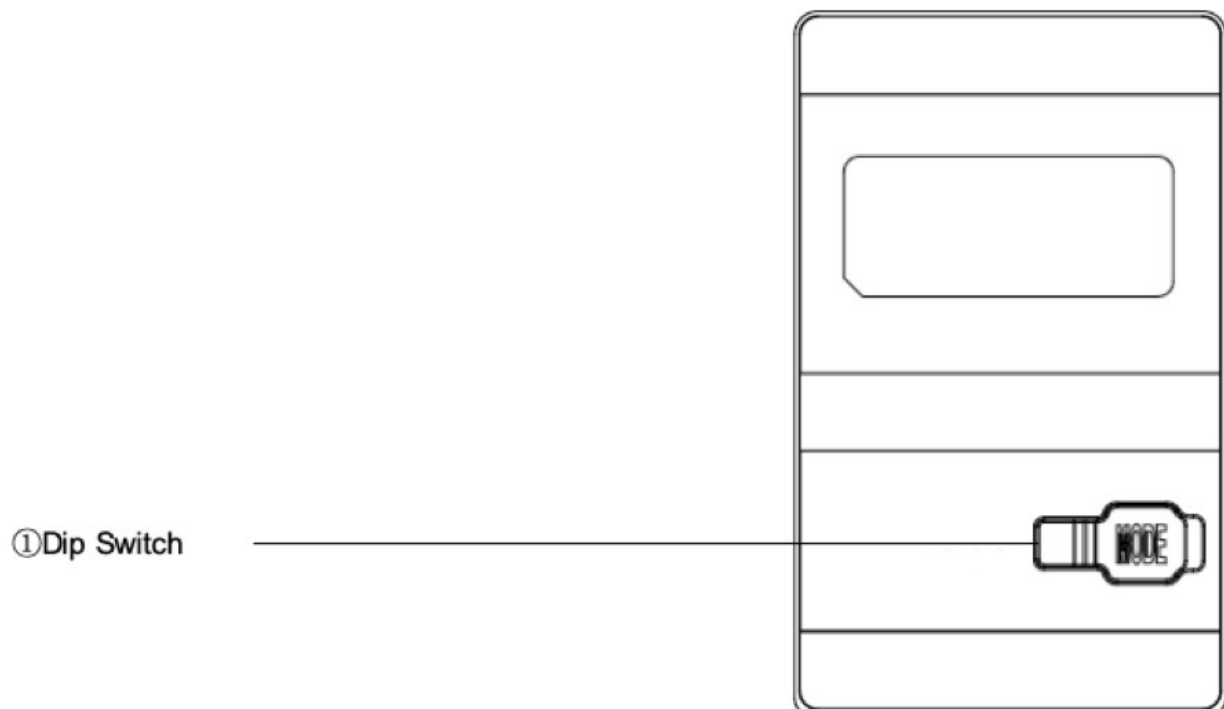

FIG. 1-3-2 Appearance (Back)
When the AsReader is on or off, turn the Dip Switch to the corresponding gear (see FIG. 1-3-2①). Wherein, 1 is reserved.